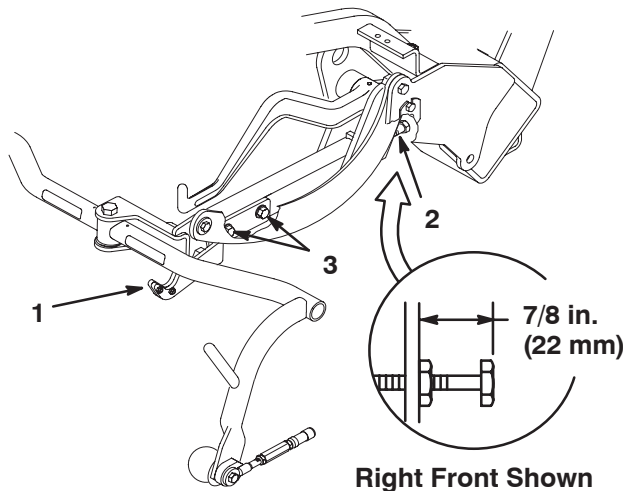

Figure 21
Check the transport height (Fig. 21) and adjust, if required, as follows:
2. Verify that the distance from the top of the carrier frame adjusting screw (Fig. 21) and the back of the carrier frame is $7/8$ in. (22 mm).
3. Loosen the transport plate mounting screws (Fig. 21).
6. If the carrier frames are not at the same height, loosen the jam nut on the carrier frame adjusting screw (Fig. 21). Rotate the screw outward to raise and inward to lower. Tighten the jam nut after the proper height is obtained.